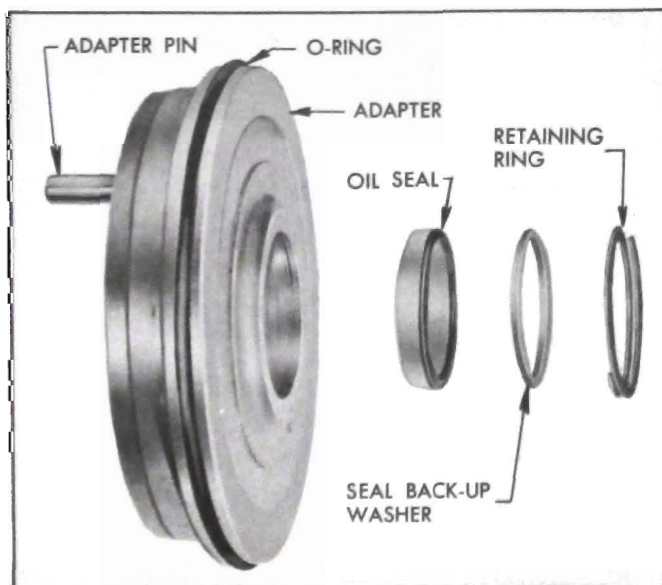

Figure 8-29—Adapter and Oil Seal Assembly
2. Lubricate O-ring and install on adapter. Lubricate and install adapter oil seal with black rubber side out, then install seal back-up washer and retaining ring. Assemble adapter to worm being careful not to damage the seal when passing over the worm grooves. Slide the ball nut with the chamfered edge away from the adapter over the worm up to the adapter. See Figure 8-29.